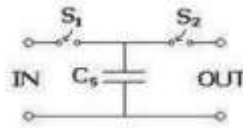

Figure 5.9.1. Switched –Capacitor resistor
Figure 5.9.1 shown above is the Switched –Capacitor resistor. The simplest switched capacitor (SC) circuit is the switched capacitor resistor, made of one capacitor C and two switches S_1 and S_2 which connect the capacitor with a given frequency alternately to the input and output of the SC. Each switching cycle transfers a charge q from the input to the output at the switching frequency f . Recall that the charge q on a capacitor C with a voltage V between the plates is given by: